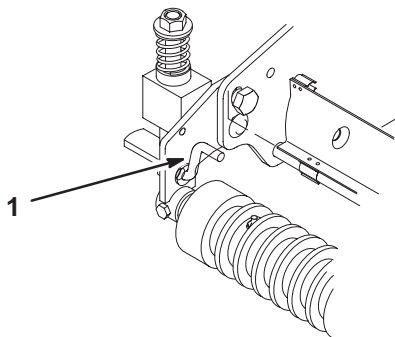

Figure 17
2. Rotate the adjusting rods (Fig. 17) so that the top of each rod is 1/8 in. above the tops of the grooming reel blade. Tighten the adjusting rod nuts.